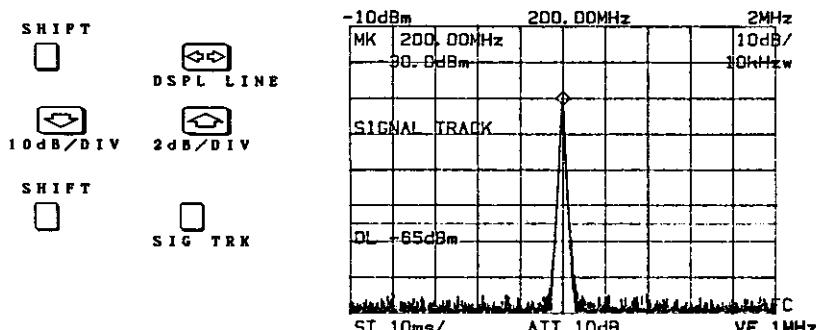

Figure 4-14 SIGnal TRack
**SHIFT**  and **SIG TRK** keys are pressed, the signal above the value determined by the display line is tracked. (See Figure 4-14.)